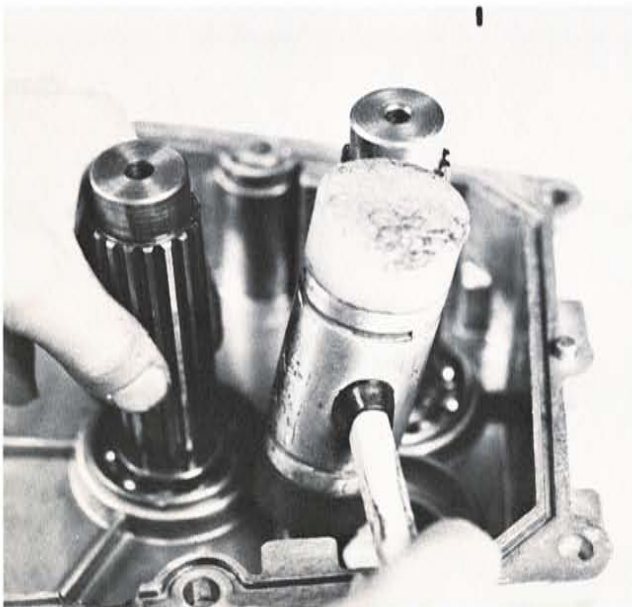

Fig 12
11. Remove transmission shafts by holding shafts and lightly tapping bearings out of case. (Fig 12)